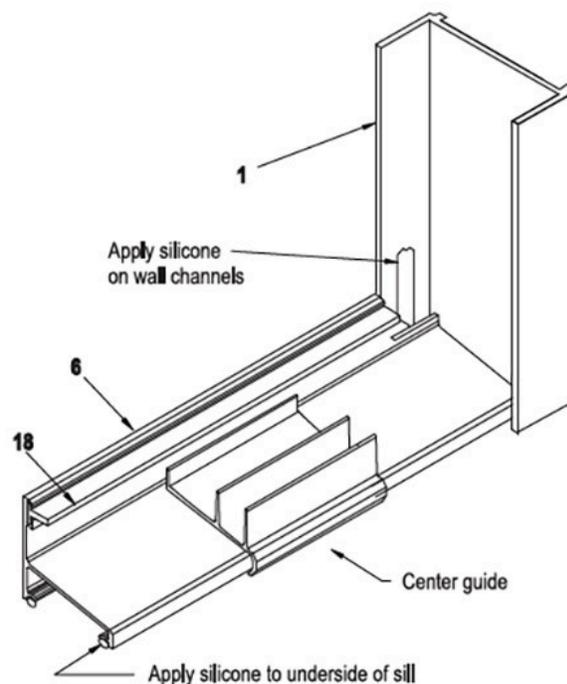

FIGURE 2
1. Set wall jambs (1) in place on walls, centering bottom of jambs on rim of tub. Hold plumb and mark walls for screw holes.
2. Remove and drill 3/16" diameter holes in walls (use a carbide tipped drill bit for tiles walls). Insert plastic wall anchors (2) into holes. Silicone where the wall meets the rim of the tub to seal the bottom of jamb. Set jambs in place and secure to wall with #8 x 1-1/4" screws (3). Secure bottom bumper (4a) on shower head/inside with the bottom wall jamb screw (3).
3. Cut sill (6) to fit opening between jambs. Run a bead of silicone full length to the underside of sill (See Figure 2) and apply silicone to inside of jamb where jamb meets tub. On the inside of jamb, run an 1/4" bead of silicone 1-1/4" up the outside leg of each wall jamb (See Figure 2). Set sill in place and press firmly to rim of tub. Wipe off any excess silicone before curing. Use tape to hold in place until silicone has set.
4. Cut header (8) 1/32" to 1/16" less than opening width and set in place.
6. Place center guide (7) in the middle of the sill (See Figure 2). Make sure the center guide is hooked into position on the sill, and then snap center guide to sill.
8. Set hand vinyl channel (14) in place over edges of outside glass panel (17) with bottom of vinyl in line with bottom of bumper. Tap towel bar brackets (9 & 10) in place. Bracket with pull should be to jamb side of slider opposite shower head. Assemble towel bars (11) to brackets using #6 x 3/8" screws (13).